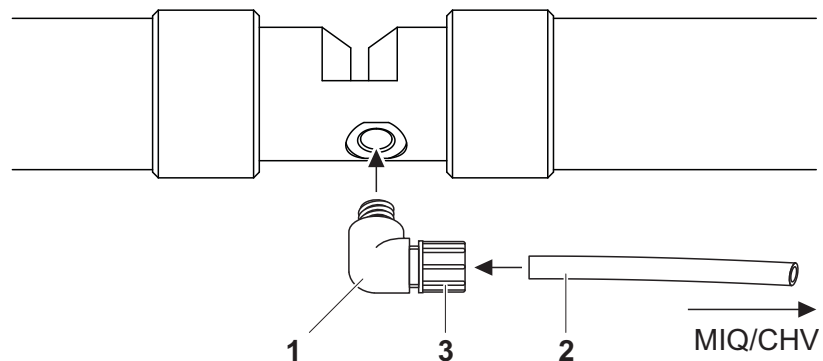

Fig. 3-4 Mounting the compressed air hose on the sensor
1	As shown in Fig. 3-4, screw-in the elbow joint (1).